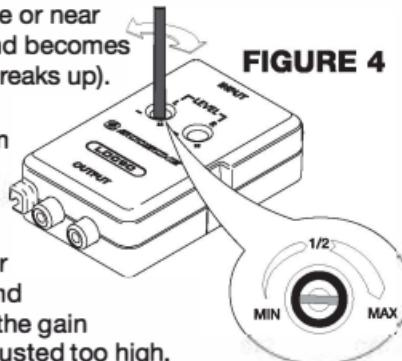

FIGURE 4
3. Use the included tool at the **LOC90** module and turn both gain controls all the way down (counterclockwise until they stop - Figure 4).